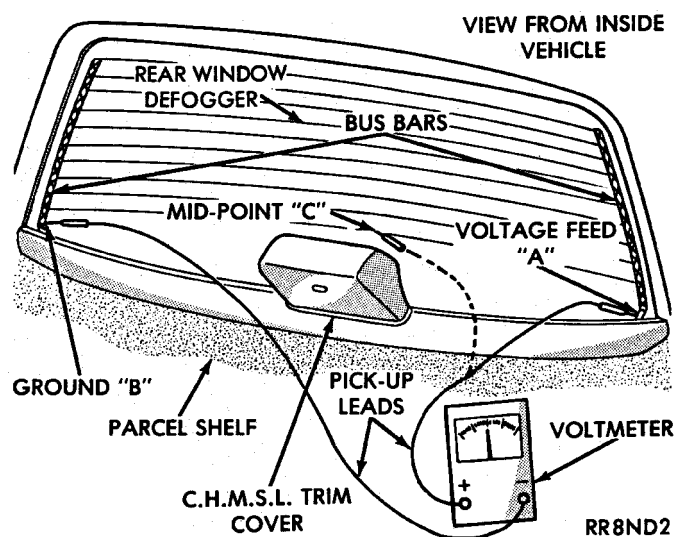
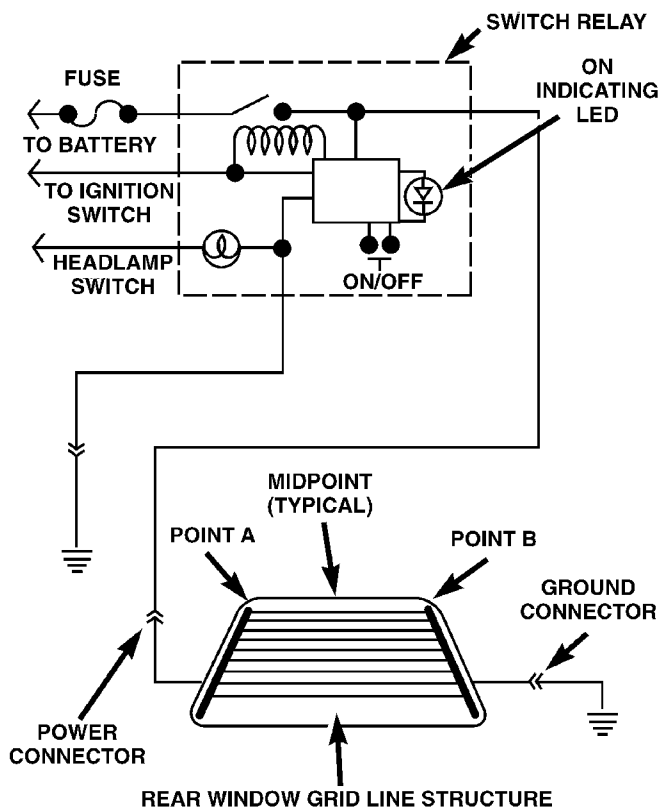

Fig. 2 Rear Glass Grid Line Test
Fig. 3 Systems Electrical Circuit
- (1) Turn ignition switch to the ON position.
- (2) Connect an ammeter in series with the battery. Push the defogger control switch to the ON position. A distinct increase in amperage draw should be noted.
- (3) The rear window defogger operation can be checked by feeling the glass. A distinct difference in temperature between the grid lines and adjacent clear glass can be detected in three to four minutes of operation.
- (4) Using a DC voltmeter, connect negative lead to Point B, and the positive lead to Point A (Fig. 2). The voltmeter should read 10-14 volts.
The horizontal grid lines and vertical bus bar lines printed and fired on inside surface of rear window glass (Fig. 2) comprise an electrical parallel circuit. The electrically conductive lines are composed of a silver-ceramic material which when fired on glass becomes bonded to the glass and is highly resistant to abrasion. It is possible, however, that a break may
(1) Turn ignition ON and turn control switch to ON. The indicator light should come on.
(2) Using a DC voltmeter with 0-15 volt range, contact terminal B with negative lead of voltmeter. With positive lead of voltmeter, contact terminal A (Fig. 2). The voltmeter should read 10-14 volts. A lower voltage reading indicates a poor connection in the feed or the ground circuit.
(3) With negative lead of voltmeter, contact a good body ground point. The voltage reading should not change.
(4) Connect negative lead of voltmeter to terminal B and touch each grid line at Mid-Point with Positive lead. A reading of:
Move the lead toward the break and voltage will change as soon as break is crossed. Refer to (Fig. 2) and (Fig. 3).
(1) Remove the switch from the instrument panel but leave the switch connected, refer to Group 8E, Instrument Panel and Systems for removal procedures.
(2) Turn the ignition switch ON.
(3) Using a voltmeter, check for battery voltage at Pin 3 and Pin 4 (Fig. 3), (Fig. 4) and (Fig. 5).